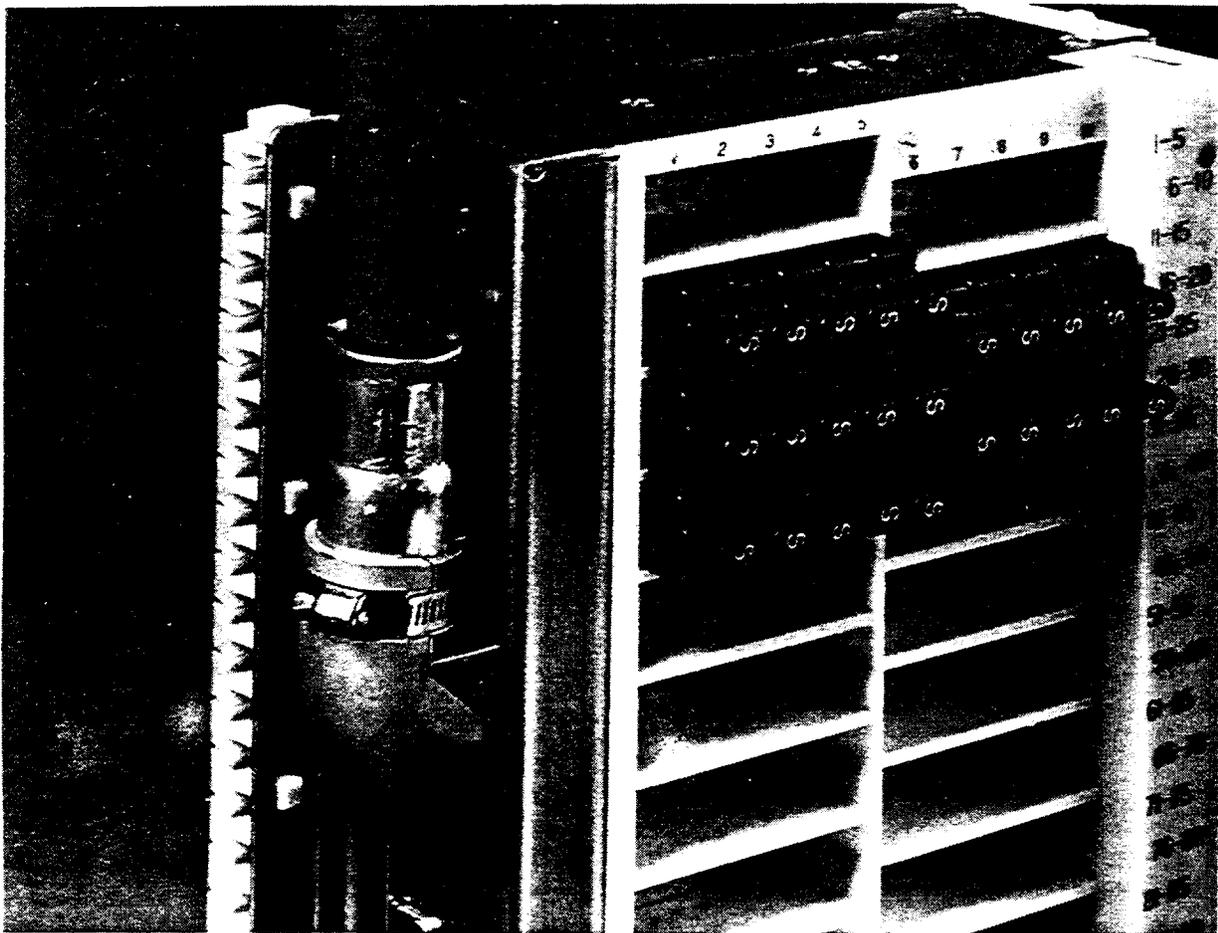

Figure 27. Left Side View 310L/ML UL Listed Connector
7.03 The UL Listed 310L- and 310ML-series connectors are all equipped with 26-gauge (0.4 mm) stub cables to facilitate UL's fusing (fuse length) requirement. The stub cables are attached to the connector with a special swivel type metal coupling (Figure 27) which encases all the individual cable conductors. The loose wire conductors inside the connector (between the swivel coupling and the appropriate outside plant terminal of the protector panel) serve as the fuse length.